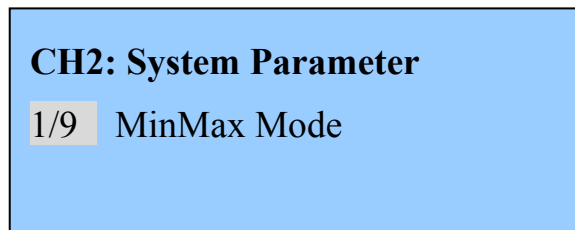

Figure 5 - Menu of GM8012 Power Meter
Press the [MENU] pushbutton to access all the parameters and functions that apply to a module. Figure 5 show the menu screen you should see for a power meter module.
- 2 The digit before decimal point of setting value will be highlighted first, as shown in Figure 5.